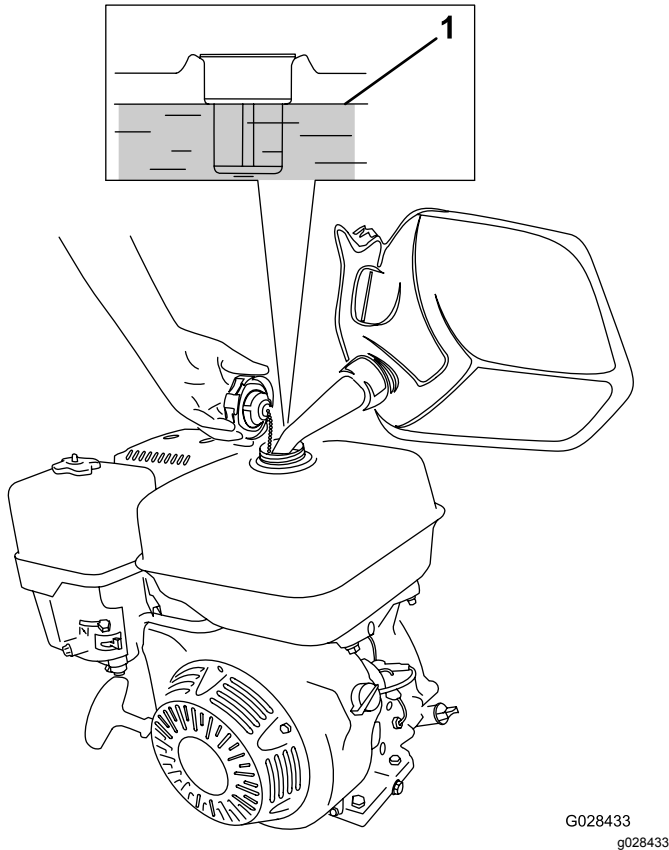

Figure 16
1. Clean around the fuel-tank cap and remove the cap from the tank (Figure 16).